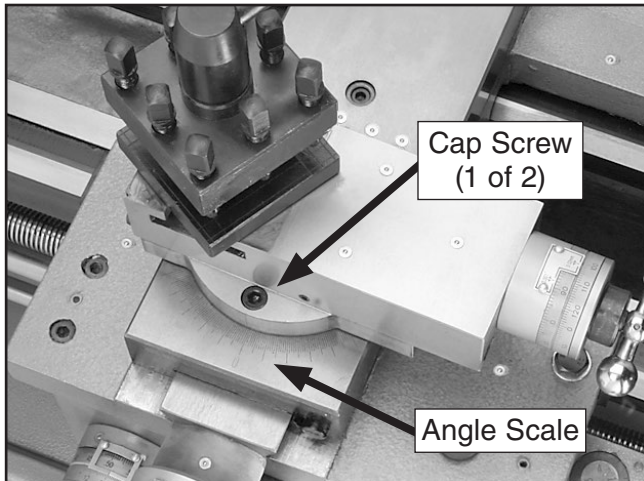

Figure 46. Compound slide angle controls.
1. Loosen the two cap screws on either side of the compound slide (see **Figure 46**).